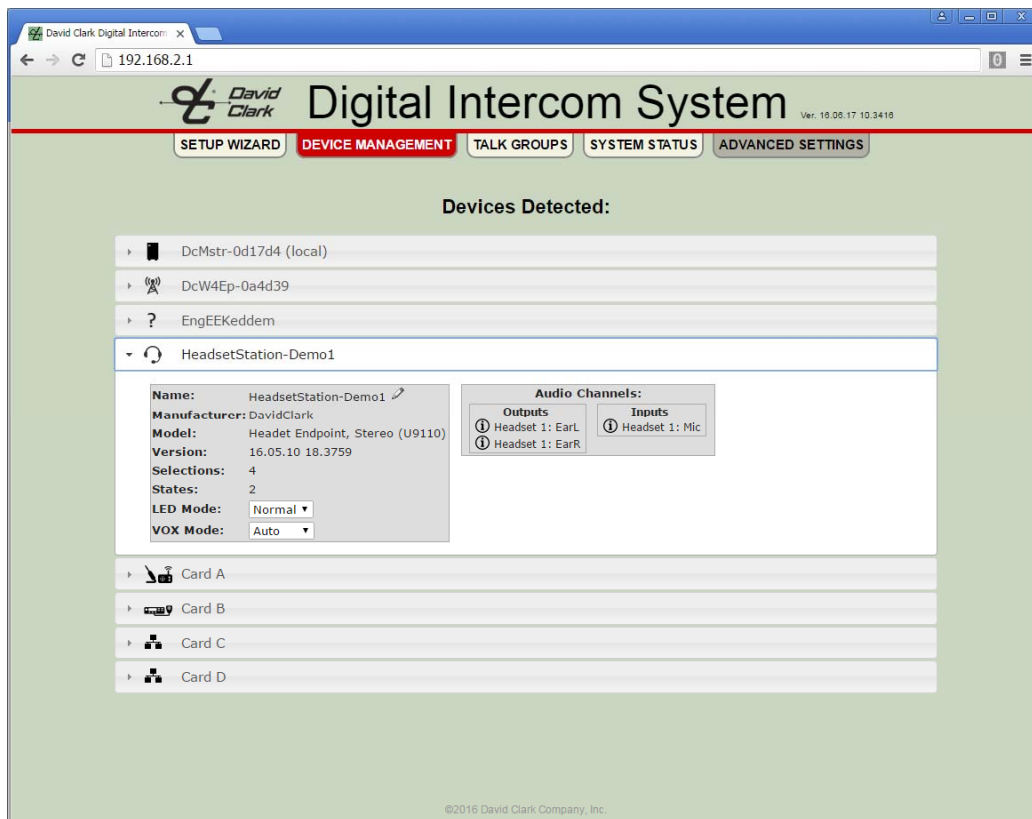

Figure 8.6.
- c. LED mode. Can be set to Normal or Dark. See **Figure 8.6**.
- d. VOX mode. Can be set to PTT, Auto, or Hot Mic. See **Figure 8.6**.
- LED Mode -- See **Figure 8.6**.
- VOX Mode – See **Figure 8.6**.